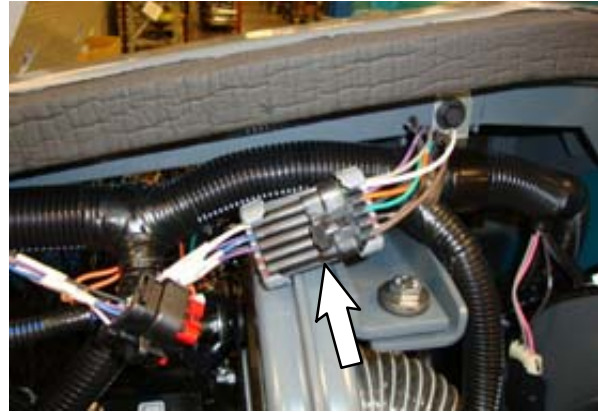
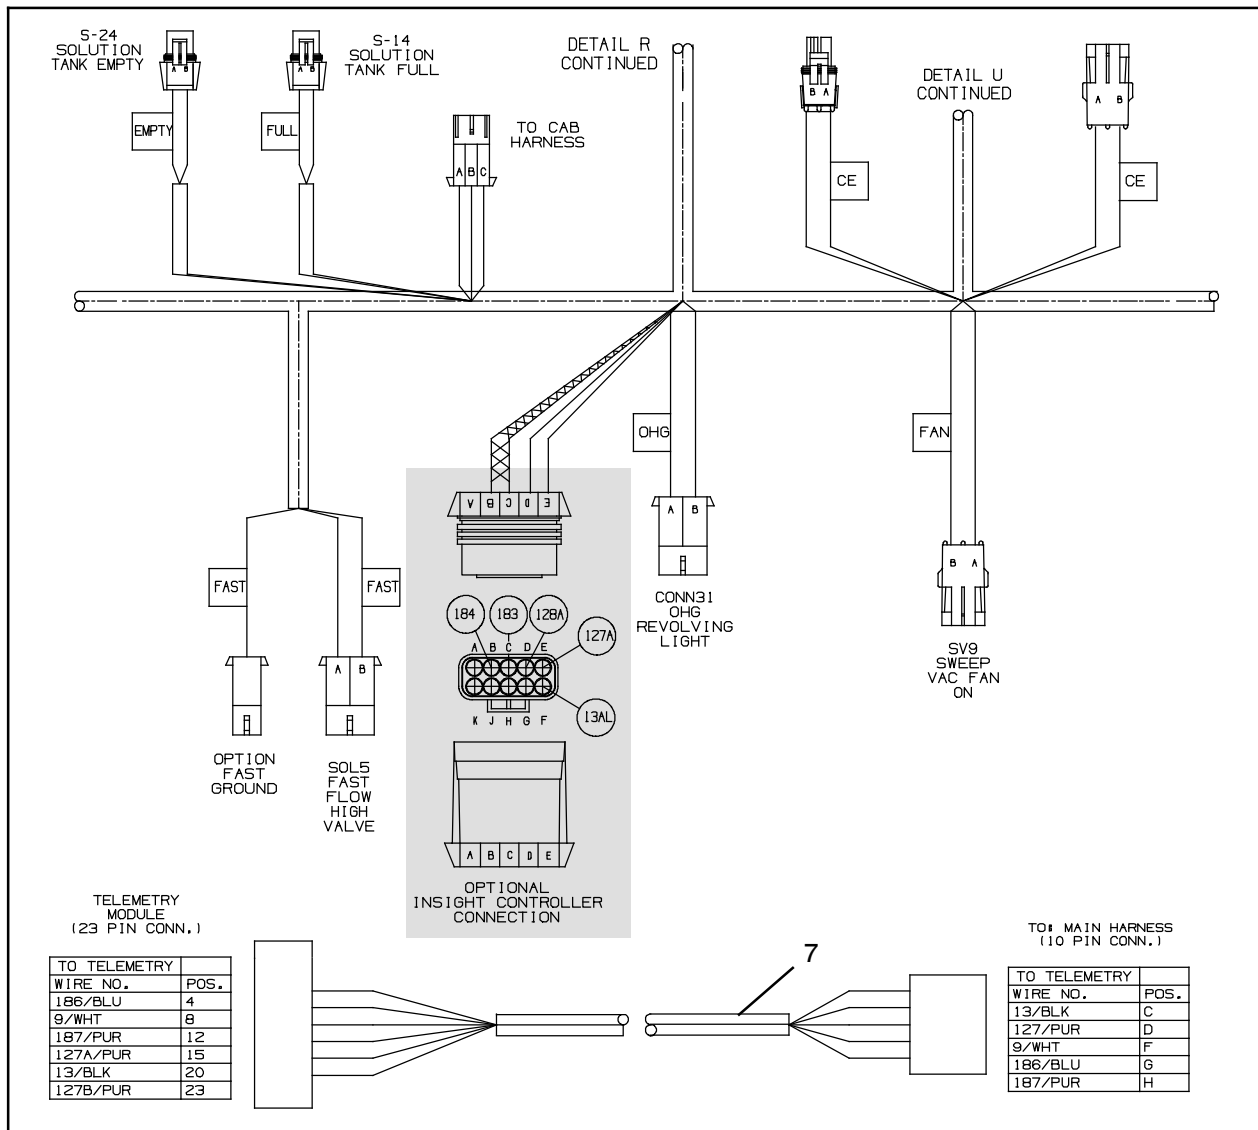
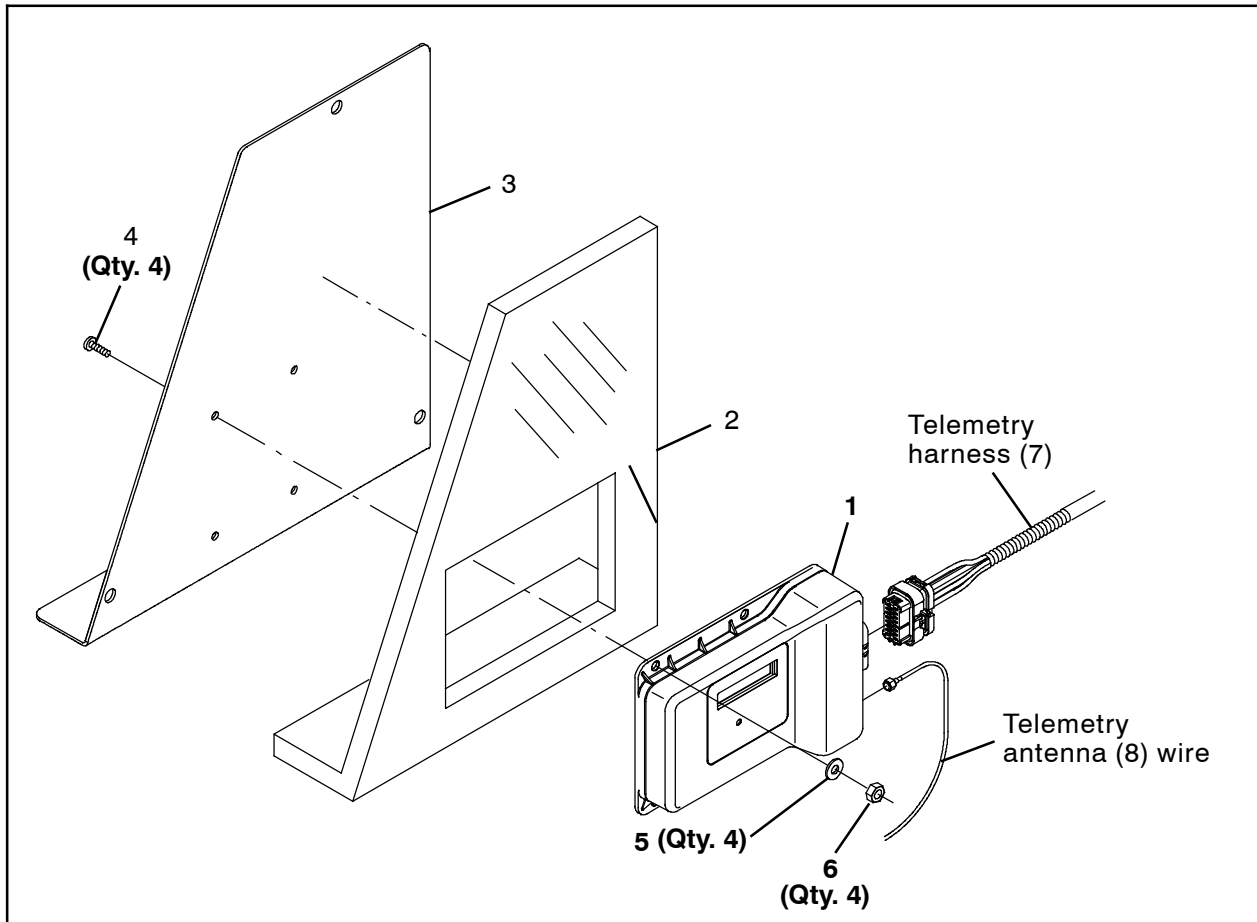

FIG. 6
FIG. 7
FIG. 8
- Connect the telemetry harness (7) to the main wire harness. (Fig. 6 / Fig. 7)
9. Use four M6 button screws (4), four flat washers (5), and four M6 hex nuts (6) to install the telemetry module (1) onto the new access panel (3). (Fig. 8)
10. Install the insulation (2) onto the access panel (3). (Fig. 8)
11. Place the access panel (3) / telemetry module (1) on the floor of the operator compartment near the opening where the old access panel was previously located.
12. Connect the telemetry antenna (8) wire and telemetry harness (7) to the telemetry module (1). (Fig. 6 / Fig. 8)
14. Install the access panel (3) / telemetry module (1) onto the machine.